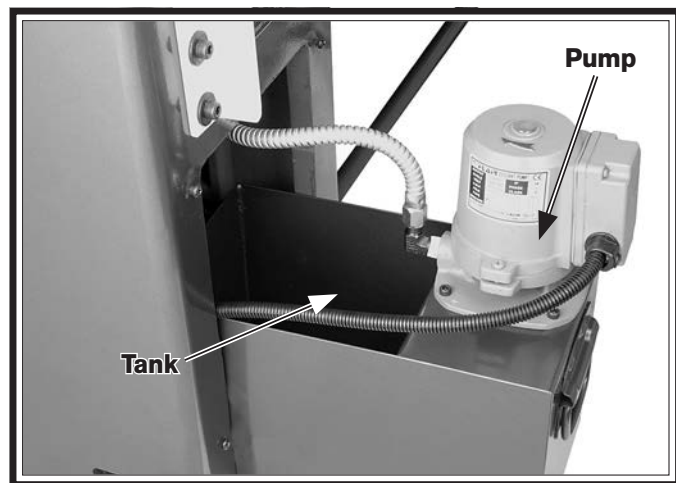

Figure 119. Coolant tank and pump.
2. Remove the vented cover and slide the tank out, as shown in **Figure 119**.